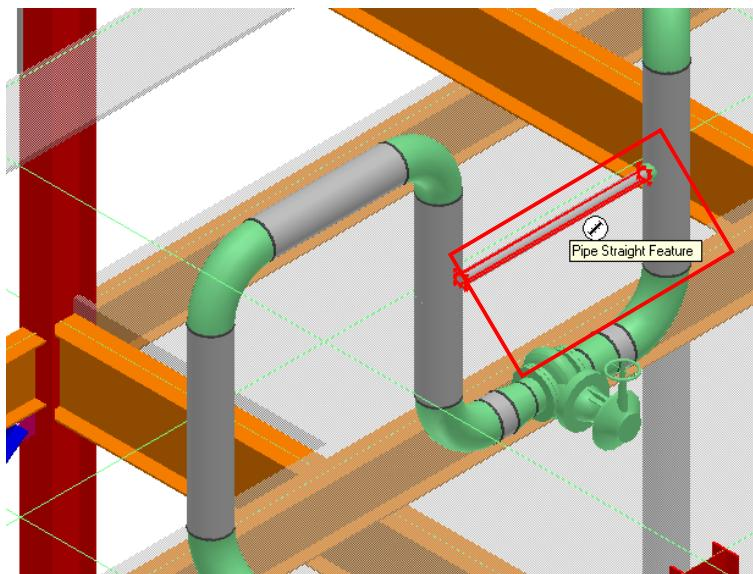

Figure 21: Located Midpoint of the Pipe
- Next, place a stock instrument on the pipe highlighted in Figure 21. Click the **Insert Component** button on the vertical toolbar and use SmartSketch to locate the midpoint of the pipe, as shown in Figure 21.